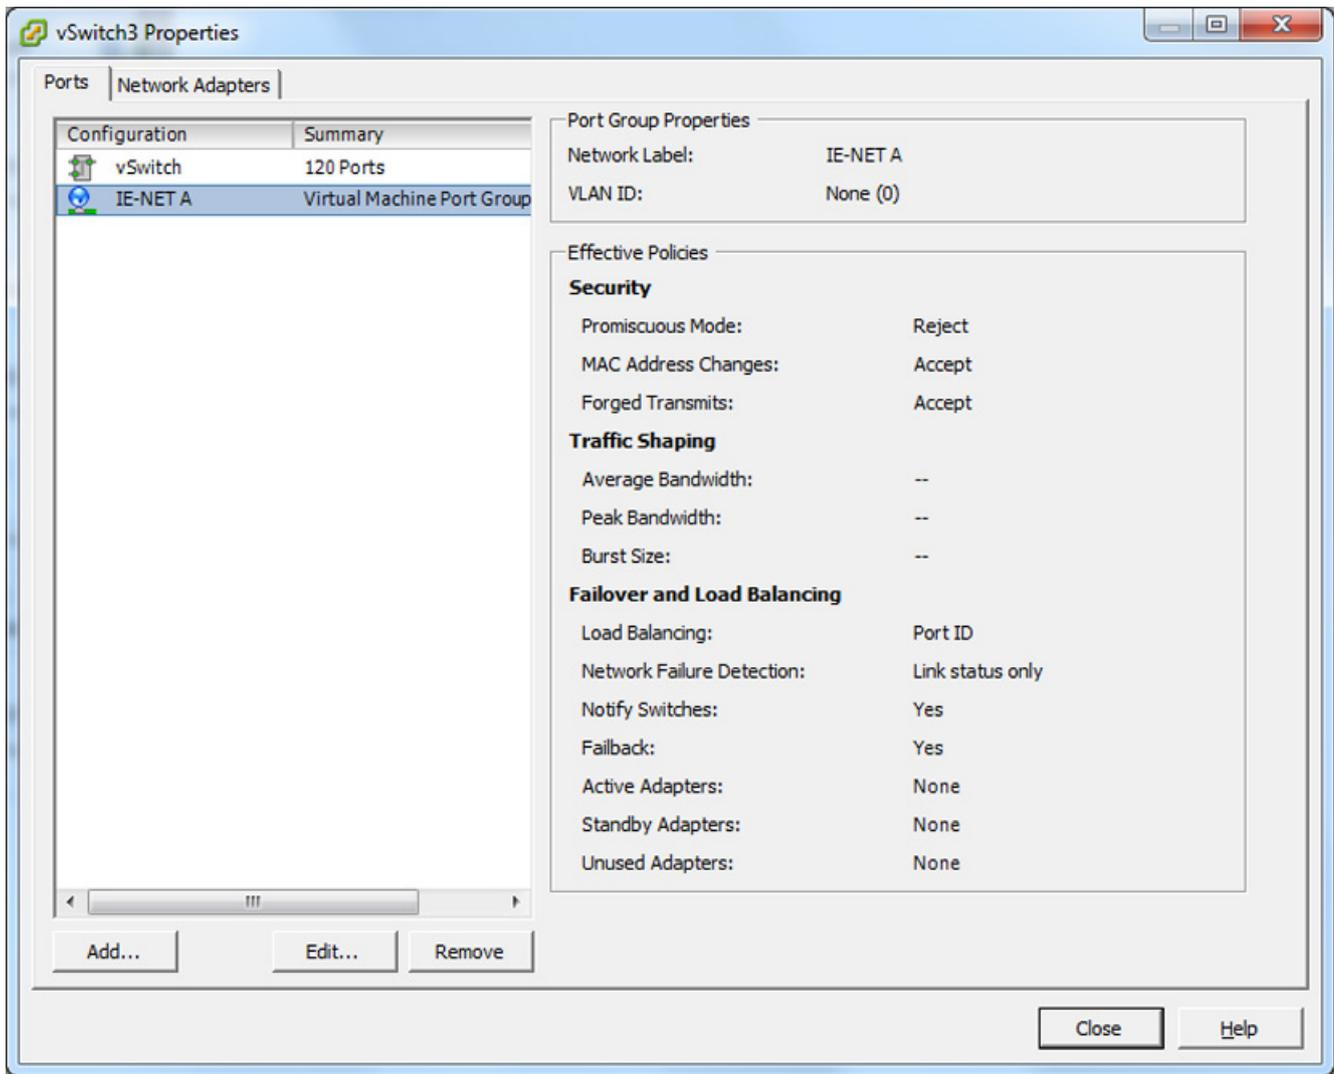

Figure 4-1 Selecting the port group in the properties of the vSwitch
- 6. In the menu on the left, select the port group for the created network (the settings can be seen in the right-hand column, see Figure 4-1).